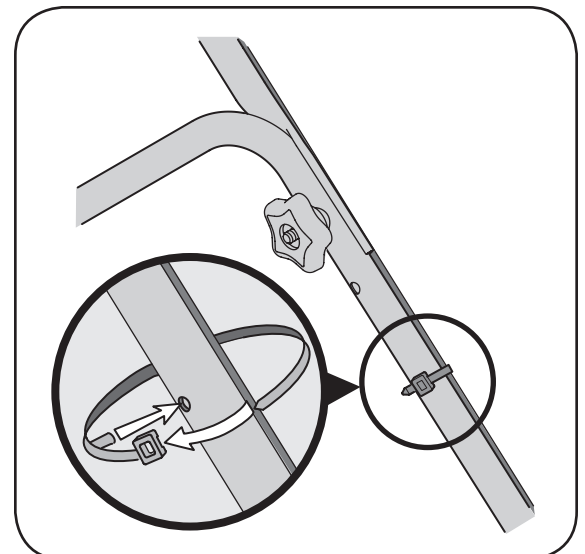

Figure 3-4: Secure cable to handle using cable ties.
4. Insert post on cable ties into holes provided on the lower handle. Pull cable tie tight and trim excess. See Figure 3-4.